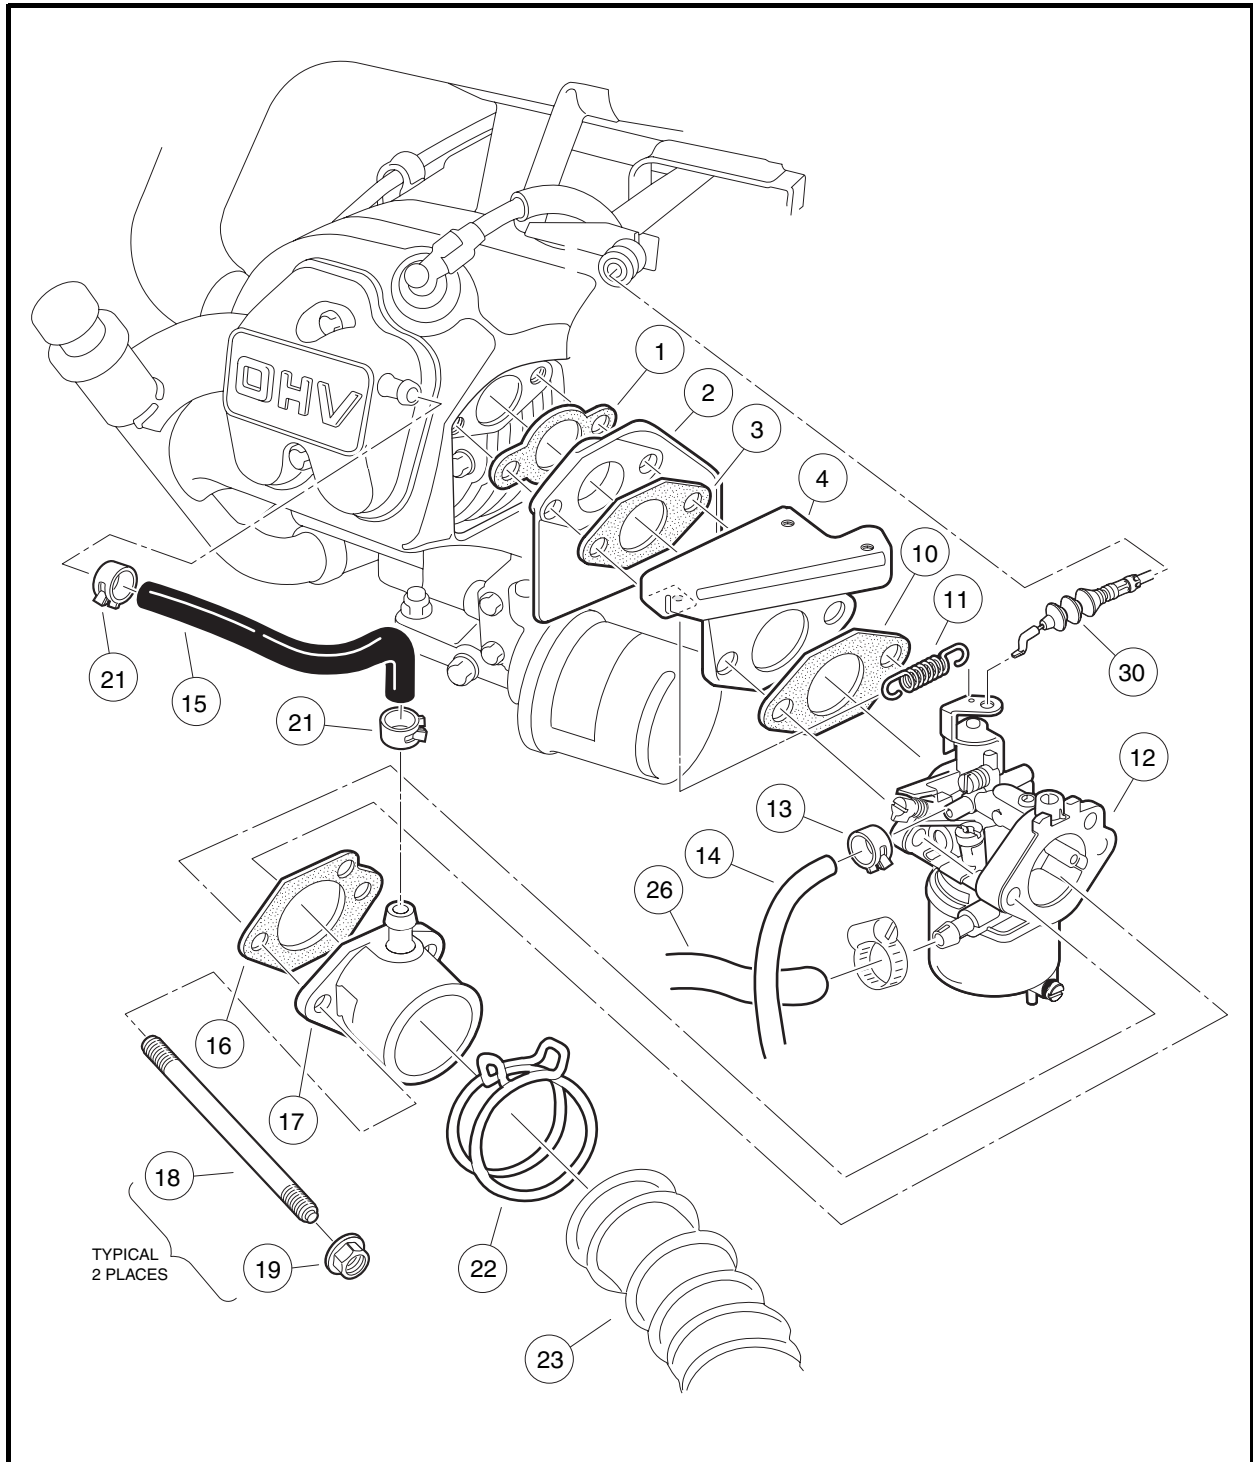

Figure 14-1 Carburetor Installation
- 1.2. Loosen the intake air hose clamp (22) and disconnect the intake air hose (23) at the carburetor end only (**Figure 14-1, Page 14-3**).
- 1.7. Remove the carburetor retaining nuts (19), intake pipe (17), and carburetor (12). **See following NOTE.**
NOTE: Note the orientation of the gasket (16), between the carburetor intake pipe (17) and the carburetor body (12) so that it can be replaced in the same orientation (**Figure 14-1, Page 14-3**).
12. Install the carburetor on the engine (Figure 14-1, Page 14-3).
- 12.1. Attach the throttle return spring (11) to the carburetor and then to the throttle bracket (4) just before positioning the carburetor and securing it to the engine (Figure 14-1, Page 14-3).
- 12.3. Install the carburetor retaining nuts (19) and tighten them to 50 in-lb (5.7 N·m).
13. Connect fuel supply line (26) and tighten screw clamp to 9 in-lb (1.0 N·m) (if equipped) (Figure 14-1, Page 14-3).
14. Install carburetor vent line (14) and clamp (13).
15. Install the governor cable (30).
16. Install the governor guard (5), flat washer and nylon lock nut. Tighten to 30 in-lb (3.4 N·m).
17. Install the intake hose (23) and secure with hose clamp.
3. Remove the governor guard (5) (**Figure 14-1, Page 14-3**).